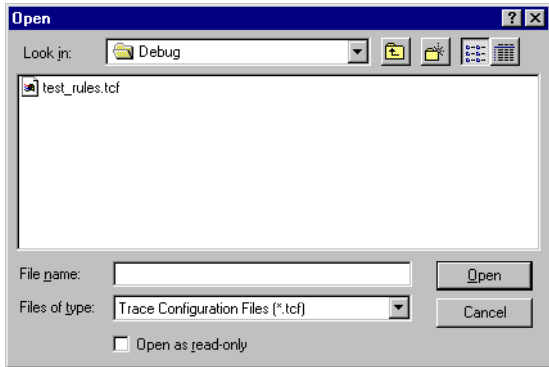

Figure 5-21 Loading from a file
1. Click **Load from File** in the Configure capture dialog box. A set of previously saved rules appears in a standard Open file dialog box (Figure 5-21 on page 5-42).